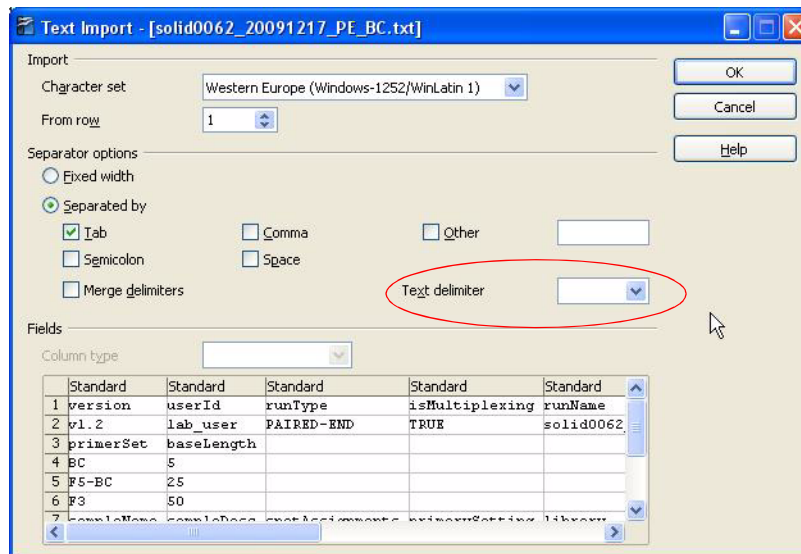

Figure 75 Empty the Text Delimiter box.
- In the Text Importer window, empty the Text Delimiter box by clicking in the **Text Delimiter** box and pressing the **Backspace** key to delete the quotation marks (see Figure 75). Then click **OK**.